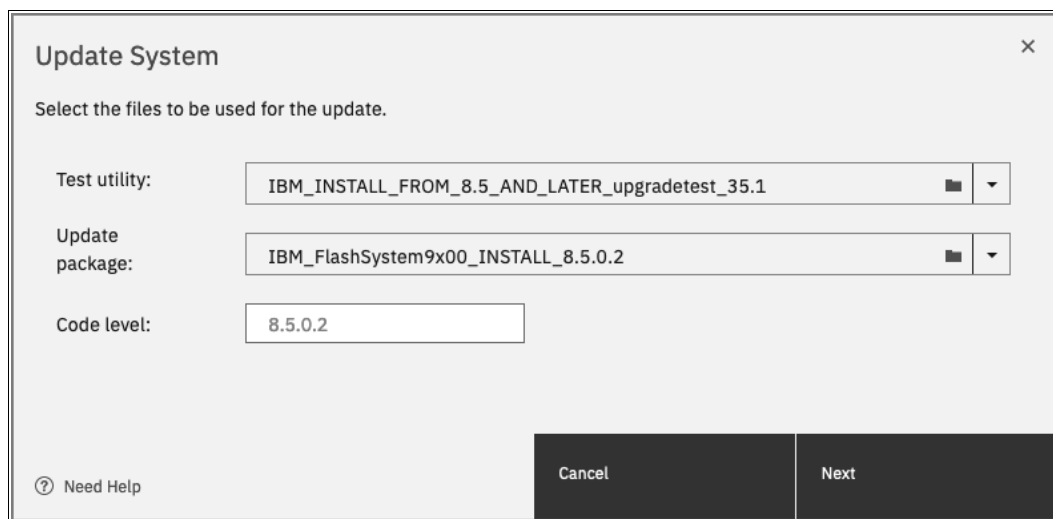

Figure 10-5 IBM Spectrum Virtualize Upgrade Test Utility by using the GUI
3. Select the test utility that you downloaded from the Fix Central support site. Upload the Test utility file and enter the code level to which you are planning to update. Figure 10-5 shows the IBM Spectrum Virtualize management GUI window that is used to install and run the Upgrade Test Utility.